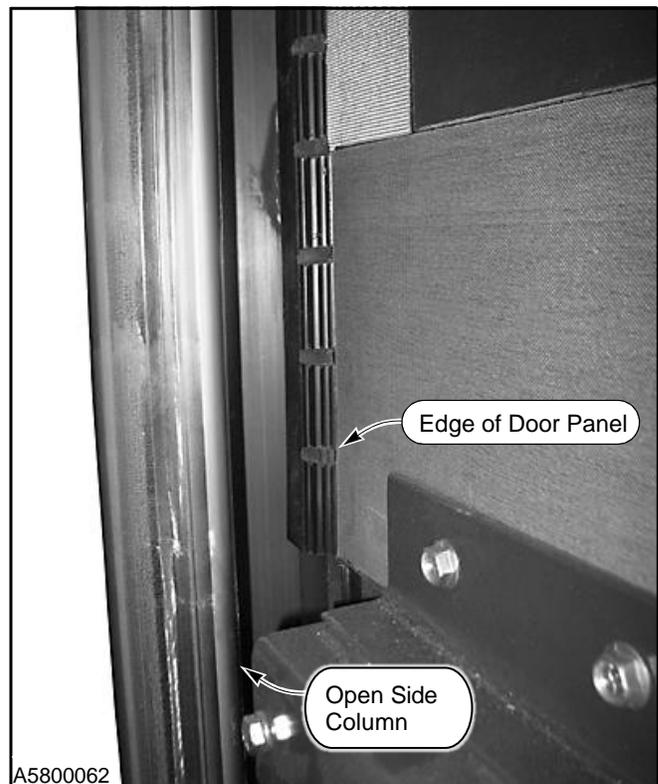

Figure 3
- This is a breakaway, partially self-repairable door. Upon impact, the door panel will pop out of the side column guide(s) and will need to be operated to the fully open position to allow the door to reset. The door panel has an edge that may bind in the side column if not completely broken away. Therefore, the motor may stall while trying to operate the door to the fully open position. If the operator is unable to get the door to the fully open position using the control panel, the side column cover(s) may have to be opened to allow the panel to travel. (See Figure 3)